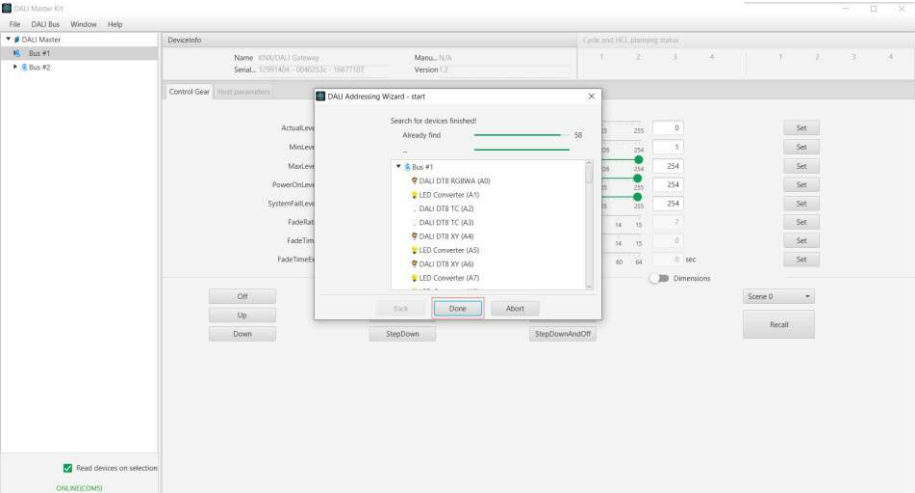

Figure 5
2.5. Once the window shows “Search for devices finished”, addressing is completed, click on “Done” button as shown in Figure 5. Then all control gears on Bus #1 will be listed on the left column of the main window under Bus #1.